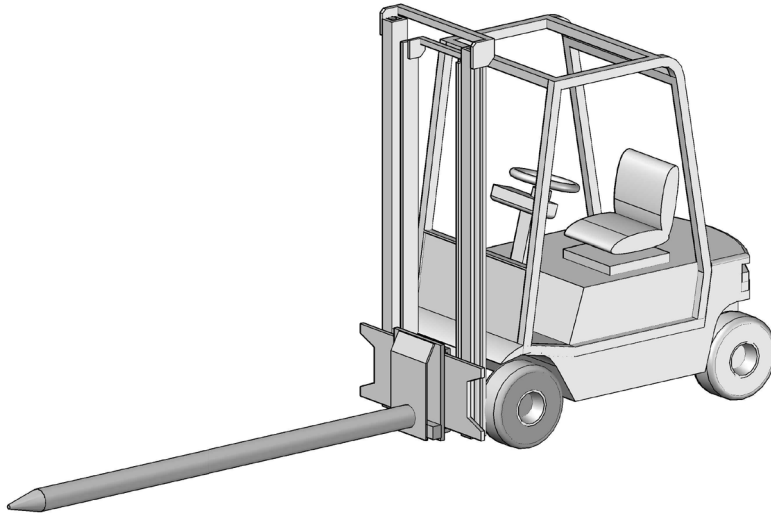

Fig. 2: Stacker with carpet mandrel
- Stacker with mandrel length $\geq 2/3$ of the roll width (carpet mandrel) (Fig. 2).